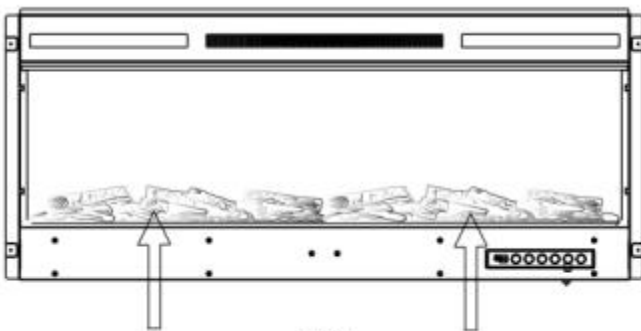

figure 1.
B. If your fireplace come with lotset, remove the logset from the package, put it to the fireplace designed place. Figure 1.